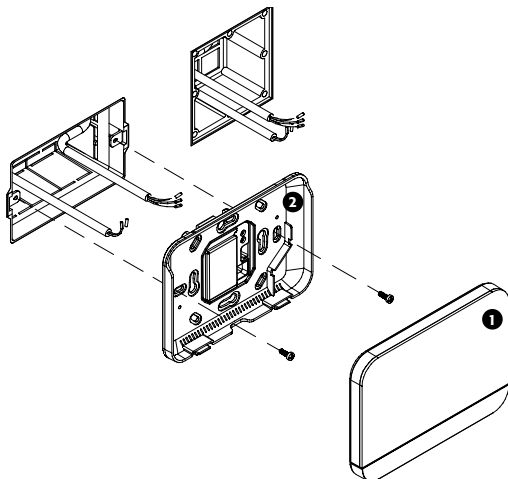

Fig. 3
1. Make the electrical connections by respecting polarity and connection as shown in Fig. 3.